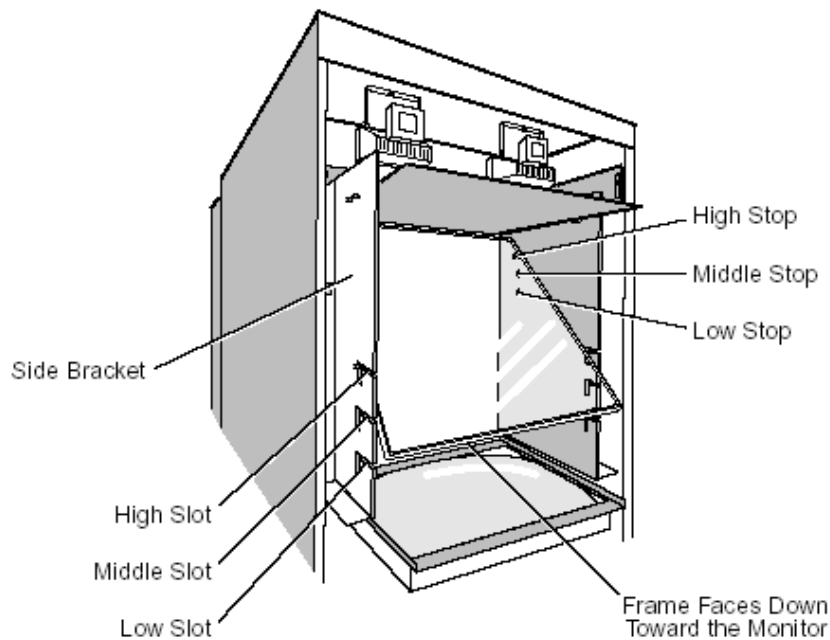

Figure 1. Final Mirror Position
3. Set the mirror in its working position, the middle position. Figure 1 shows the final position of the mirror.